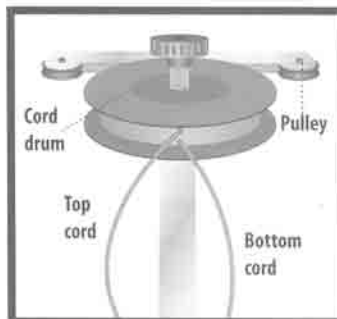
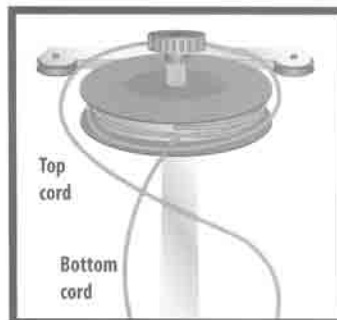

Figure 1
Figure 2
4. Wrap all of the cord coming out of the top hole, (Figure 1) counterclockwise around the cord drum until there is no more cord left to wind (Figure 2). Do not be concerned if it looks tangled; it will smooth out later.